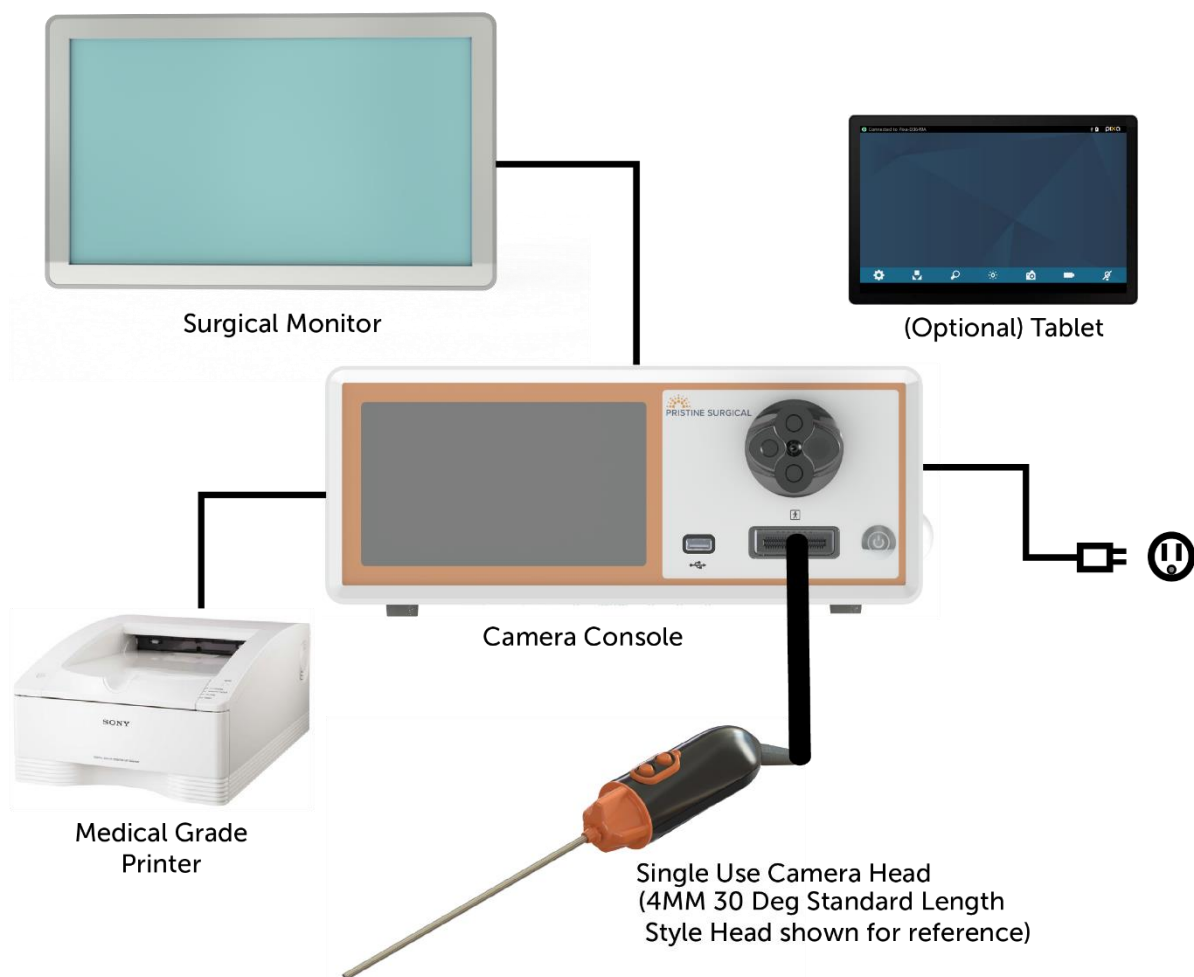

Figure 1 – Installation/System Setup Illustration of the Camera System
A typical installation of the Camera System with a reusable head is illustrated in Figure 1 for reference.
- Use Figure 1 and the rear panel labeling as a guide to connect other compatible equipment, if desired.